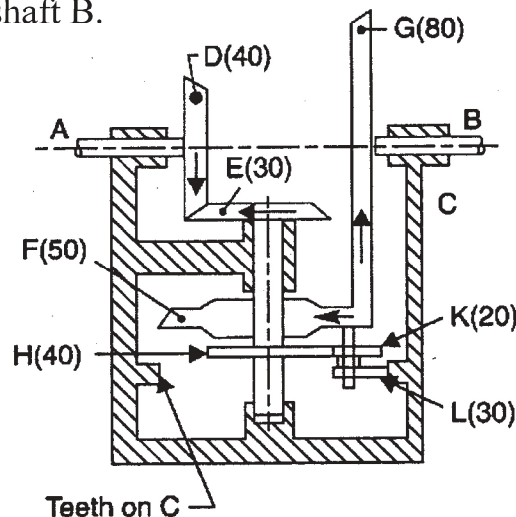

Fig. 2
- Q12) In the gear drive shown in the Fig. 2, the driving shaft A rotates at 300 rpm in the clock wise direction, when seen from the left hand side. The shaft B is the driven shaft. The casing C is held stationary. The wheels E and H are keyed to the central vertical spindle and wheel F can rotate freely on this spindle. The wheels K and L are rigidly fixed to each other and rotate together freely on a pin fitted on the underside of F. The wheel L meshes with internal teeth on the casing C. The number of teeth on the different gears is indicated within the bracket. Determine the number of teeth on gear C and speed and direction of rotation of shaft B. [16]